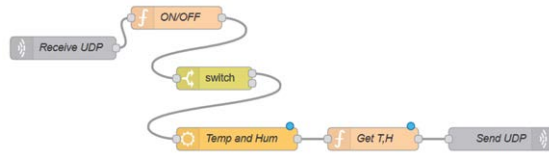

Figure 9.11 Flow program of the project
Node-RED flow program: Figure 9.11 shows the flow program which consists of 6 nodes: a **udp in** node to receive UDP packets from the mobile phone, a **function** node which checks when command **weather** is received, a **switch** node which activates the **open-weathermap** node to get the local weather report, a **function** node to extract the local temperature and humidity data from the weather report, and a **udp out** node to send the temperature and humidity data to the mobile phone.
- Join all the nodes as shown in Figure 9.11 and click **Deploy**